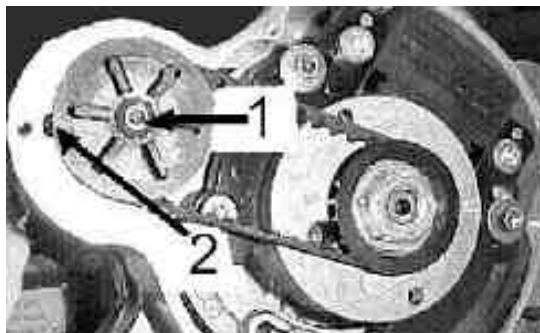

Figure 41
9. Remove belt retainer screw using a 1/8" hex key. (Figure 41 - item 1)
11. Remove bearing retainer screw using a 3/32" hex key. (Figure 41 – item 2)